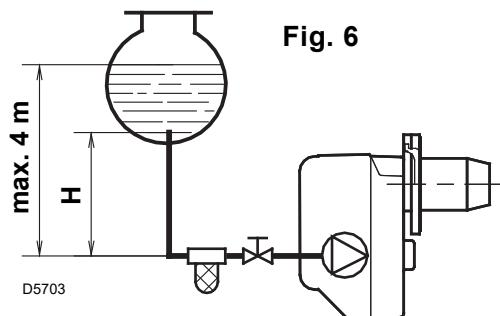
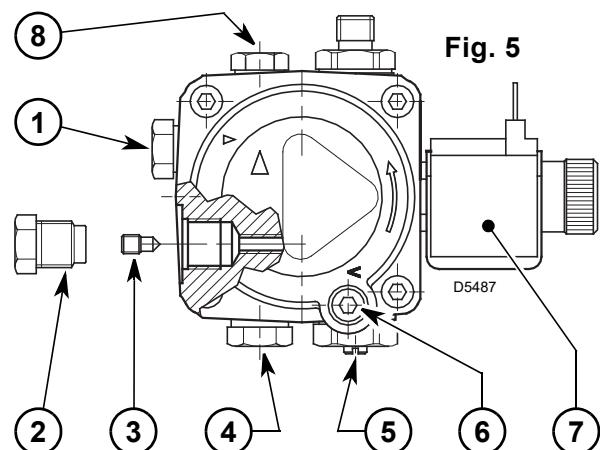

Fig. 6
Fig. 5
- The pump is designed to allow working with two pipes. In order to obtain one pipe working it is necessary to unscrew the return plug (2), remove the by-pass screw (3) and then screw again the plug (2). (See fig. 5).
On the system in fig. 6 it is sufficient to loosen the suction gauge connection (5, fig. 5) and wait until oil flows out.
To change it act on pump pressure adjust screw (4, fig. 5, page 4).